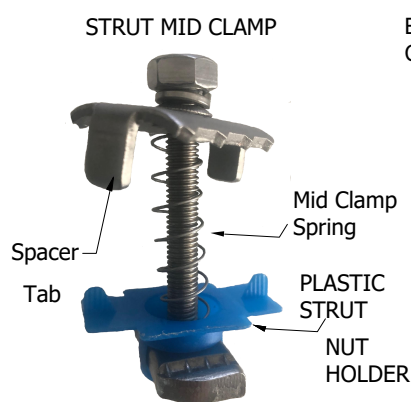

Figure 26A
- Note: The Osprey Mid Clamp (Fig 26A) and the Everest CrossRail Mid Clamp (Fig.26 B) are both approved clamps for UL 2703 listing see approved panel list on page7-8.)